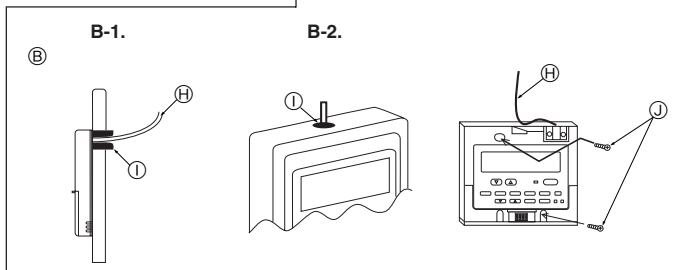

Fig. 7-6
(2) Seal the service entrance for the remote controller cord with putty to prevent possible invasion of dew drops, water, cockroaches or worms. (Fig. 7-6)